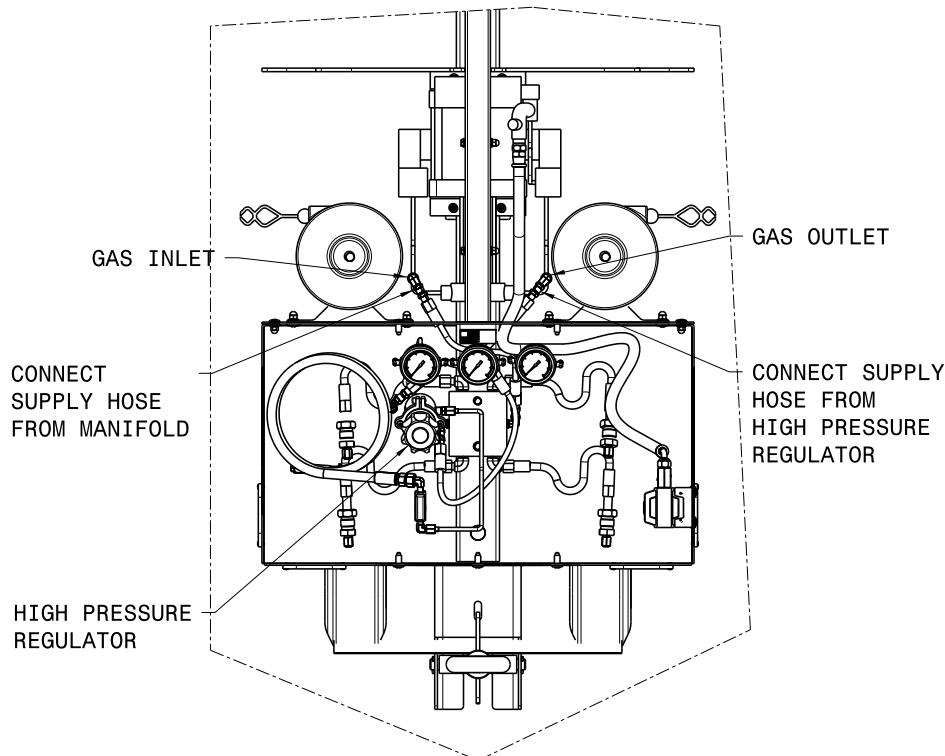

FIGURE 2 – 4 Bottle Cart Instrument Panel
2. Install 12 inch supply hose from regulator assembly to gas outlet on booster per SAE spec. ARP 1532, being careful not to contaminate the system during installation. (See **Figure 2**).
3. Install 12 inch supply hose from manifold assembly to gas inlet on booster per SAE specification ARP 1532, being careful not to contaminate the system during installation (See **Figure 2**).
4. Install and rotate the supply bottles so that the manifold inlet hoses may be easily connected to the bottles. Tighten bottle hoses 2 to 2½ turns after finger tight is reached. Make sure the hoses are not kinked or damaged. Recheck all fittings for tightness. (See **Figure 2**).